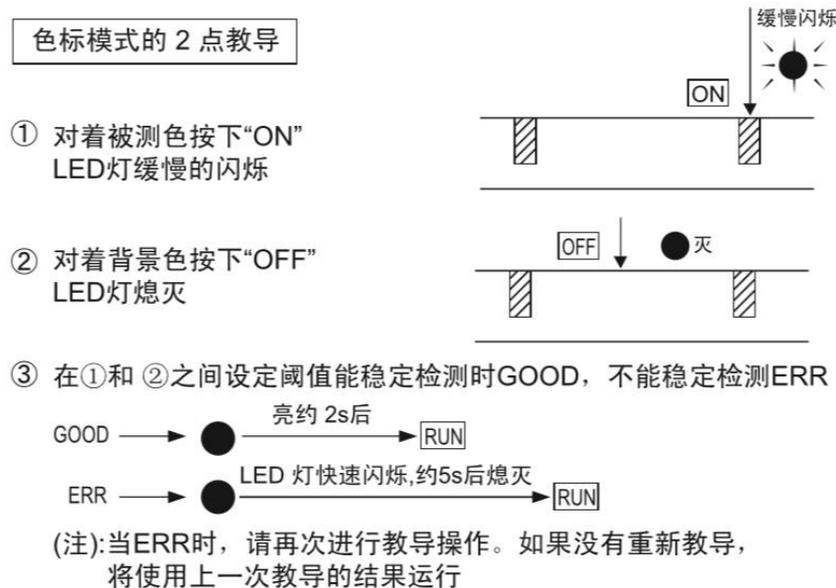

Fig. 1 Method of teaching colour-coded sensors
2.1.2 Firstly, put the light point of the colour-coded sensor against the LOGO logo, press ON, wait for the indicator to flash slowly, then move the light point of the colour-coded sensor against the non-LOGO rubber band, then press OFF, wait for the indicator to light up for about 2 seconds, then the calibration will be completed, please refer to the following figure 1 for details.